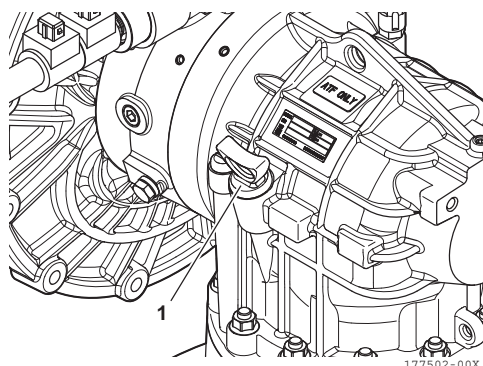

Figure 26
17. Install the dipstick (1, **Figure 26**) with the new O-ring.